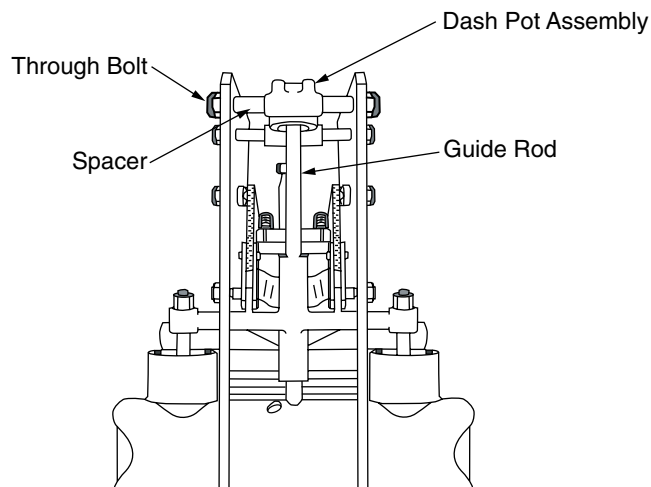

Figure 2. Moving dash pot to allow removal of moving contact arm assembly.
2. Remove the through bolt and swing the dash pot assembly up away from the guide rod, Figure 2.
6. Move dash pot assembly back over guide tube, and reinstall spacers and through bolt to secure, Figure 2.